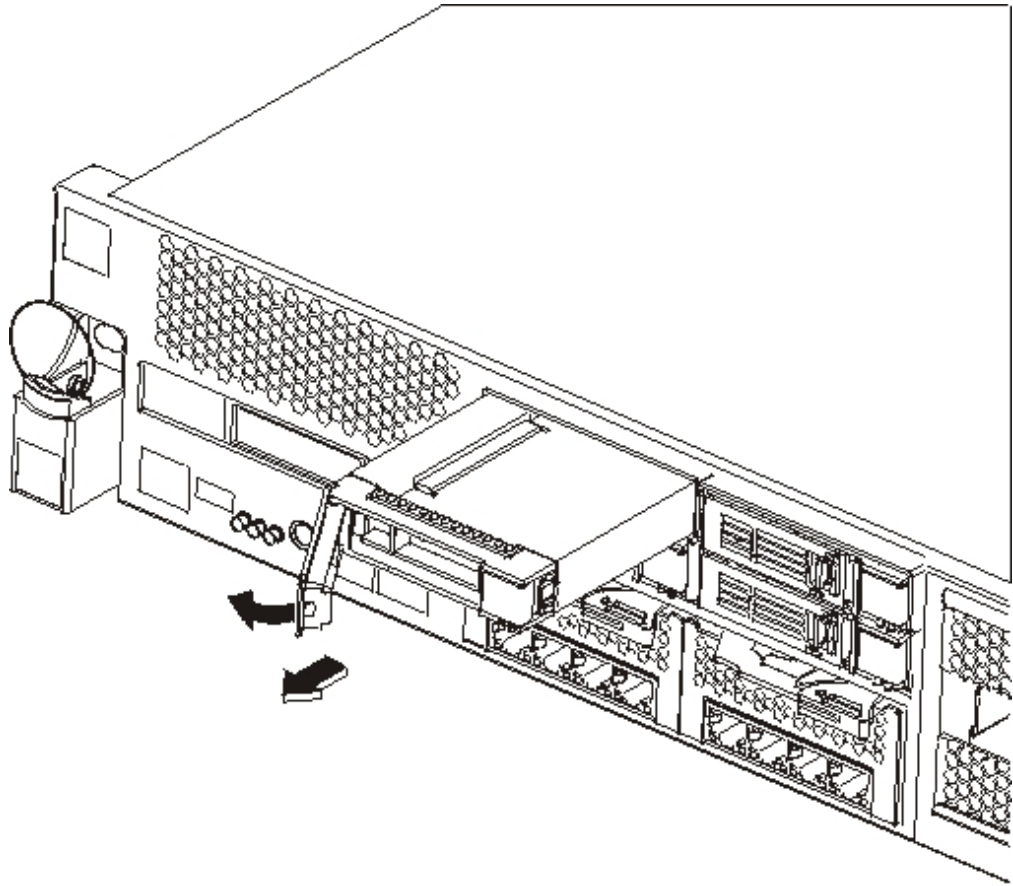

Figure 17. Removing a hard disk drive module (Type 7199)
2. Press the blue button and the lever pops open. Figure 17 illustrates the following steps.